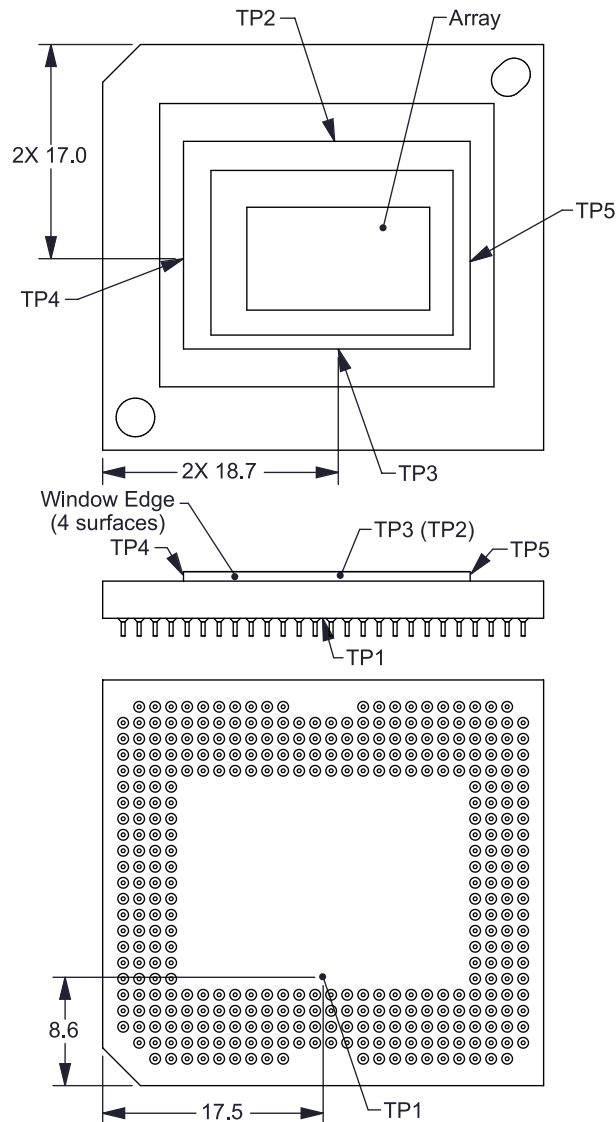

Figure 15. DMD Thermal Test Points
- T_{CERAMIC} = Measured ceramic temperature (°C), TP1 location in Figure 15
- Q_{ARRAY} = Total DMD power; electrical, specified in Electrical Characteristics, plus absorbed (calculated) (W)
- $Q_{\text{ELECTRICAL}}$ = Nominal DMD electrical power dissipation (W), specified in Electrical Characteristics